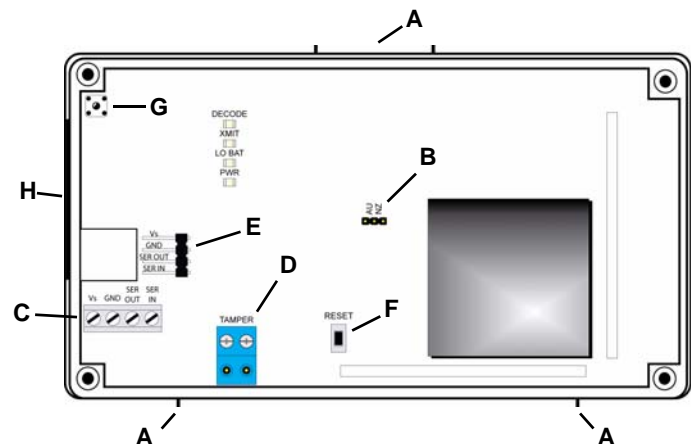

Figure 3 EN6040 network coordinator internal components
1. Use a small screwdriver to press the top housing release tab and separate the housing (Figure 3).
2. If using the Inovonics ACC643 serial and power cable to connect the EN6040 network coordinator, connect it to the serial data and power port (Figure 3).
3. If using a serial data and power cable of your own design, connect it to the serial data terminal (Figure 3). Cabling should meet the following specifications:
4. If an external tamper switch is needed, connect a cable to the tamper terminal (Figure 3). Tamper cabling should meet the following specifications:
5. Route the cabling through the side cabling knockout (Figure 3).
6. Place a selection jumper on the frequency band selection pins appropriate to your geographic area (Figure 3).
7. Press the reset button to complete configuration (Figure 3).